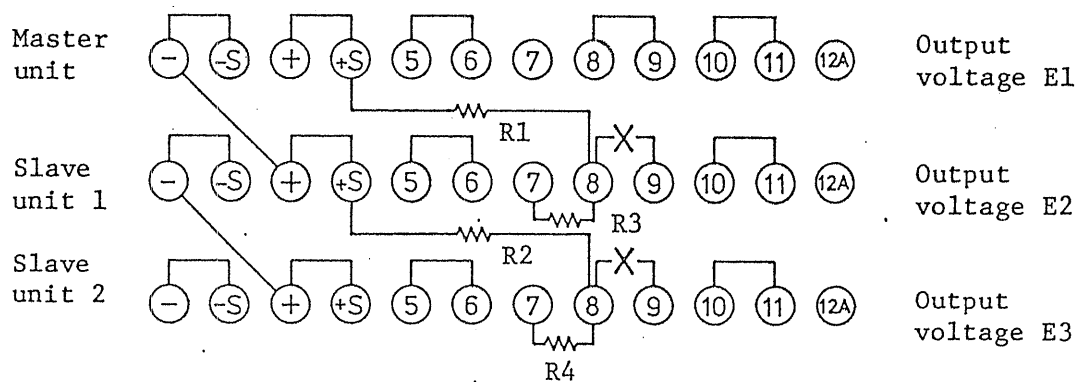

Figure 4-14
2. Disconnect the jumper from between terminals (8) and (9) of each slave unit.
3. Connect external resistor as shown in Figure 4-14.
4. Connect in series the rear output terminals as shown in Figure 4-14. (Use wires of sufficient current rating.)